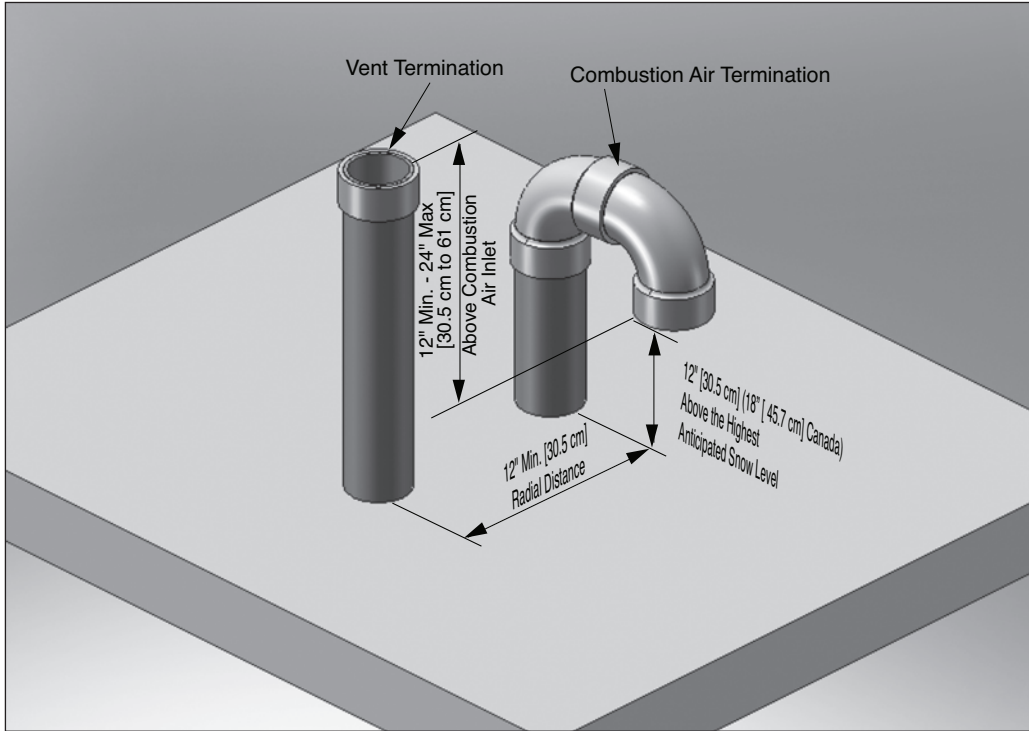

Fig. 1: Direct Vent - Vertical Termination of Vent and Combustion Air Piping.
2. The combustion air piping must terminate in an upside down “U” shape fashion using two 90° elbows as shown in Fig. 1 page 8 or with a tee as shown in Fig. 2 page 8. The termination must be installed 12” [30.5 cm] (18” [45.7 cm] Canada) above the highest anticipated snow level.
3. The vent must terminate vertically with a coupling to accept the bird screen and must be located 12” to 24” [30.5 cm to 61 cm] above the combustion air inlet as shown in Fig. 1 & Fig. 2 on page 8.
4. The vent and combustion air terminations must be located a radial distance of 12” to 24” [30.5 cm to 61 cm] from centerline of vent termination to centerline of air termination as shown in Figs. 1 & 2 on page 8.
3. Locate the vent and combustion air pipe penetrations to provide clearances as described in Fig. 1 & Fig. 2 on page 8.
2. The combustion air piping must terminate in an upside down "U" shape fashion using two 90° elbows as shown in Fig. 1 page 8 or with a tee as shown in Fig. 2 on page 8.
3. The vent piping must terminate vertically with a coupling as shown in Figs. 1 & 2 page 8.
**Do not extend the vent pipe above the roof beyond the dimensions shown in Fig. 1 & Fig. 2 on page 8. Extended exposure of the vent pipe could cause condensate to freeze and block the vent pipe.**